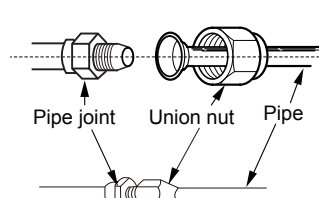

Fig.5
(1) Aim the pipe joint at the corresponding bellmouth. (As show in Fig.5)
(2) Pretightening the union nut with hand.
(3) Adjust the torque force by referring to the following sheet. Place the open-end wrench on the pipe joint and place the torque wrench on the union nut. Tighten the union nut with